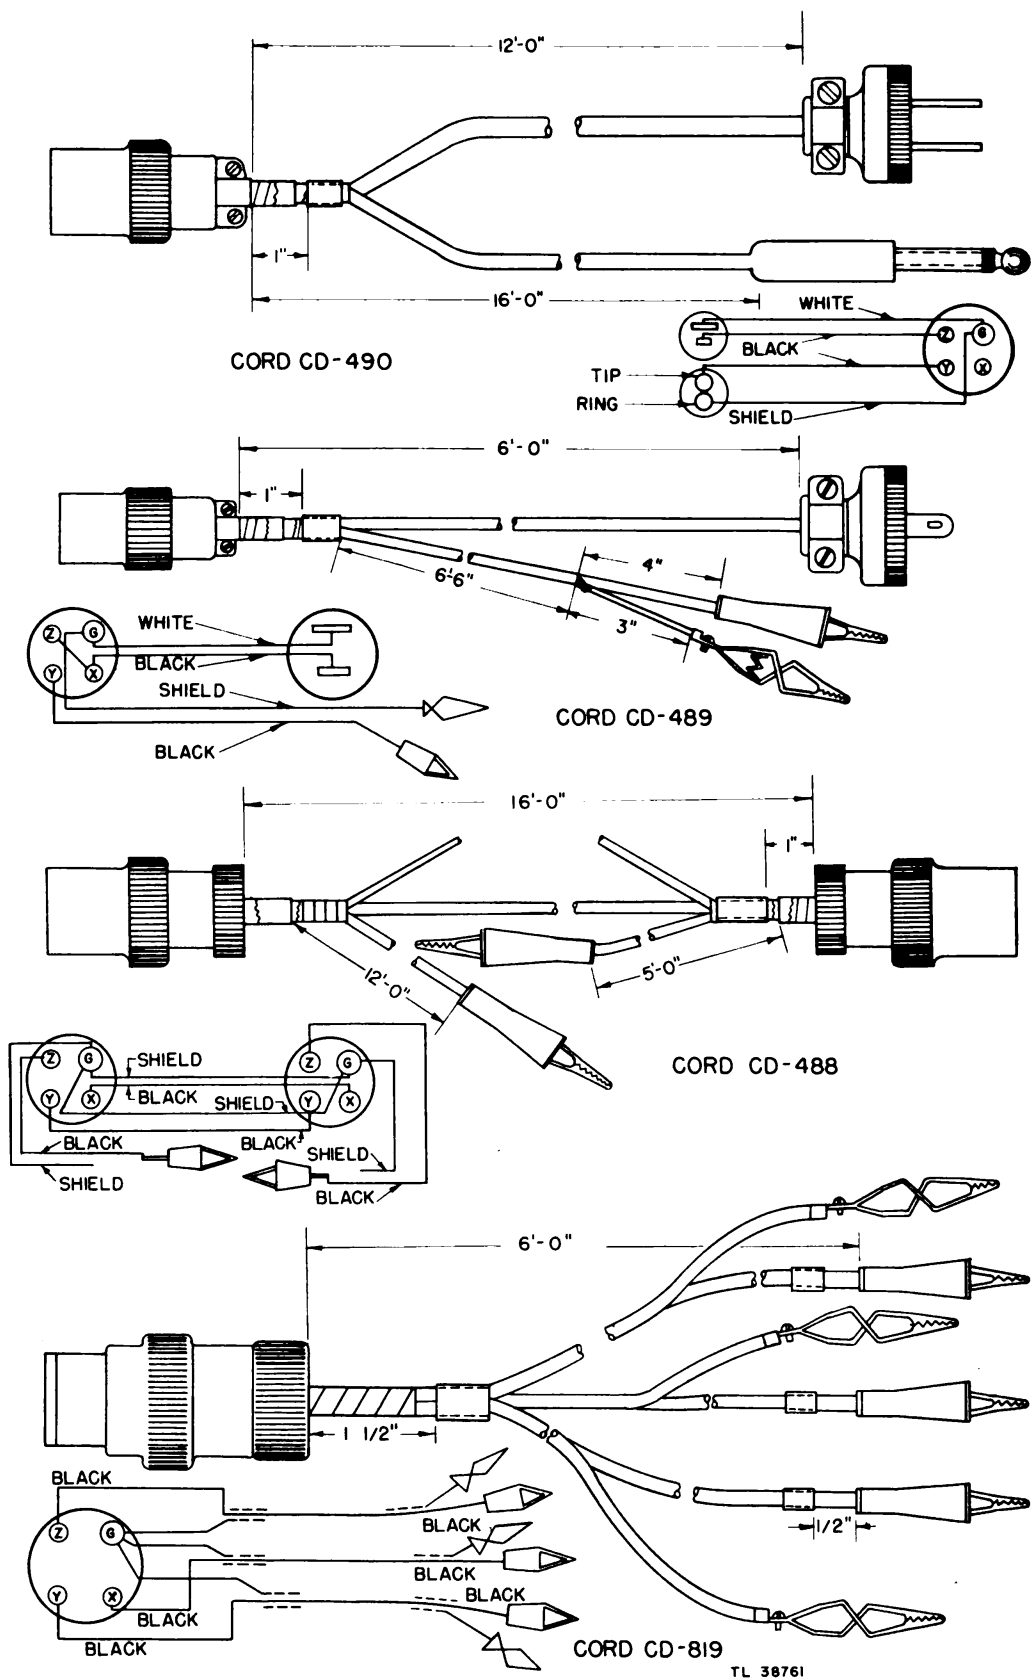

Figure 18. Test Cords, sketch.
b. Cord CD-488 (fig. 18). Cord CD-488 is a 12-foot, 3-conductor, rubber-covered cable used to connect the output of the radio receiver to the input of the oscilloscope while mounted on the trailer. It is a shielded cable with a 4-pole male plug on each end. One of the conductors is opened 5 feet from one end, and the two ends are each connected to a crocodile clip which is covered with a black rubber insulator.
c. Cord CD-489 (fig. 18). Cord CD-489 is a 6-foot, 2-conductor, and a 6-foot, single-conductor cable used to supply power to the keying unit and to obtain a synchronous voltage. The 6-foot, 2-conductor cable is rubber-covered. The 6-foot, single-conductor cable is shielded and rubber-covered. Both are connected on one end to a 4-pole female plug. The free end of the single conductor is connected to an insulated crocodile clip and the shield is also connected to an insulated crocodile clip. The 2-conductor cable is connected at its free end to a polarized plug cap.
d. Cord CD-490 (fig. 18). Cord CD-490 is a 12-foot, 2-conductor, and 16-foot, single-conductor cable used to supply power to the oscilloscope, and a synchronous sweep voltage from the radio modulator. The 2-conductor cable is rubber covered. The single-conductor cable is shielded and rubber covered. The 2-conductor and single-conductor cables are connected on one end to a 4-pole male plug. The 2-conductor cable is connected at the other end to a polarized plug cap. The other end of the single-conductor cable is connected to Plug PL-55.
i. **Cord CD-819 (fig. 18).** Cord CD-819 is a 6-foot cable composed of three 6-foot lengths of single conductor, individually shielded, and rubber-covered. It is used to connect the audio-frequency signal generator to the oscilloscope when testing the vertical line and spread on the oscilloscope. One end of each conductor is connected to a 4-pole female plug. The other ends, shields and conductors, are connected to six crocodile clips. Rubber insulators are placed over the clips connected to the conductors.